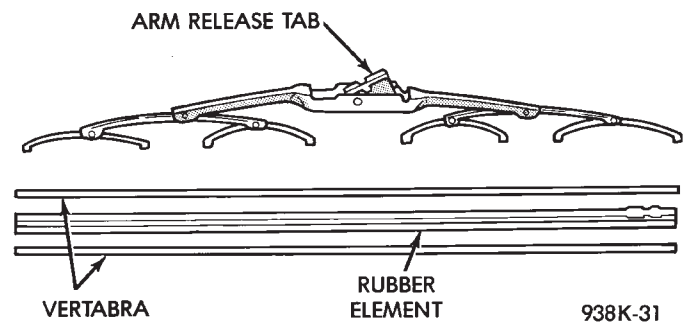
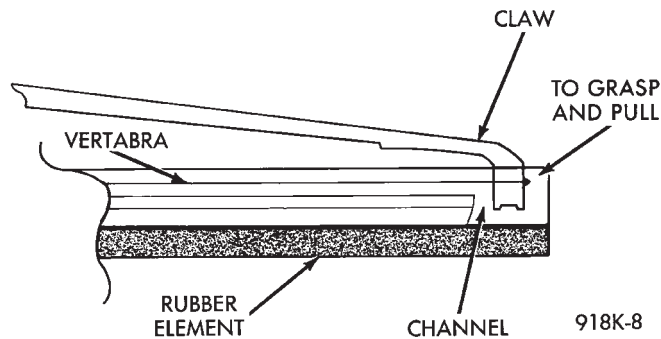

Fig. 1 Wiper Blade and Element
Fig. 3 Wiper Blade and Element
(1) Turn wiper switch ON, position blades to a convenient place by turning the ignition switch ON and OFF. When in position turn ignition switch OFF.
(2) Lift wiper arm to raise blade off glass.
(3) Remove blade assembly from arm by pushing release tab under arm tip and slide blade away from arm tip (Fig. 1 and 2). The vertebra is curved on the right blade only. Install with the curve matching the shape of the windshield.
(2) Remove blade assembly from arm by pushing release tab under arm tip and slide blade away from arm tip (Fig. 1 and 2). Gently place wiper arm tip on glass surface.
(3) To remove wiping element from blade assembly:
- Pull stopper, of the rubber element, out of the end claw together with vertebra (metal rails) (Fig. 3).